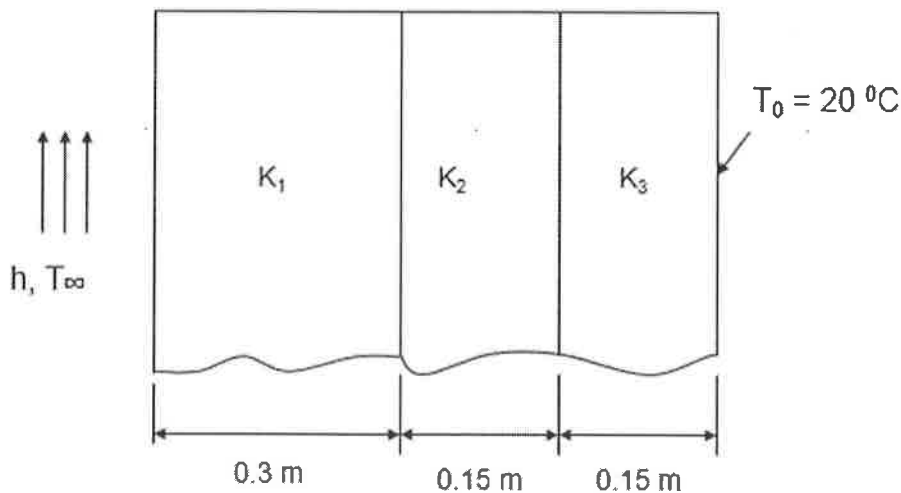

Fig.3
9. A composite wall consists of three materials as shown in Fig. 3. The outer temperature  $T_0 = 20 \text{ }^\circ\text{C}$ . Convection heat transfer takes place on the inner surface of the wall with  $T_\infty = 800 \text{ }^\circ\text{C}$  and  $h=25 \text{ W/m}^2 \text{ }^\circ\text{C}$ . Determine the temperature distribution in the wall.